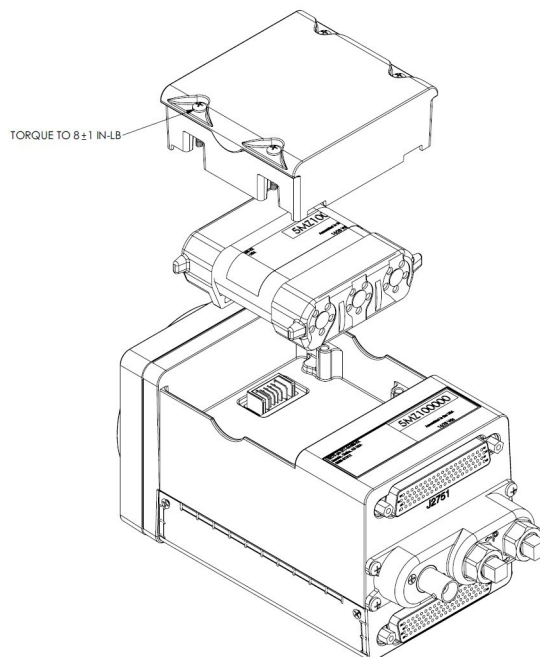

Figure 2. Installation of battery pack.
7. Install the battery pack (item 2) in the GI 275 as shown in Figure 2.